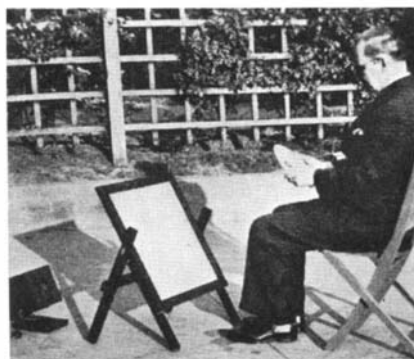

Figure 2: The strained glass tester
Starting at the lower, left-hand corner of the photograph (Figure 2) the following elements of the set-up are seen: (1) A wooden box, hinged beneath for adjustment in altitude and containing an ordinary 25-watt lamp. Fastened over the hole in its front, this hole being made as large as the polarizing material will permit, is one half of a pair of Polaroid goggles of the kind now obtainable at many filling stations, with their normally horizontal dimension vertical. (2) An easel with a pane of common window glass frosted on one side, to provide a fairly uniformly illuminated area of polarized light large enough to permit the examination of a moderate sized disk against it. (3) The glass under test, held in the hands. If the glass is not strained, the expansion due to the heat of the hands will give it a strain, hence it should be insulated with a cloth or felt; but if the desire is to study the effect of heat in causing temporary strains, no insulator should be used. (4) A pair of Polaroid goggles worn in the normal manner, which will cause the horizontal dimen-
sion of the lenses to cross that of the Polaroid in the lamp box and thus be at right angles to one another. (5) The eyes of the tester—in Figure 2 these are the property of F. M. Garland. The photograph was taken at our request.